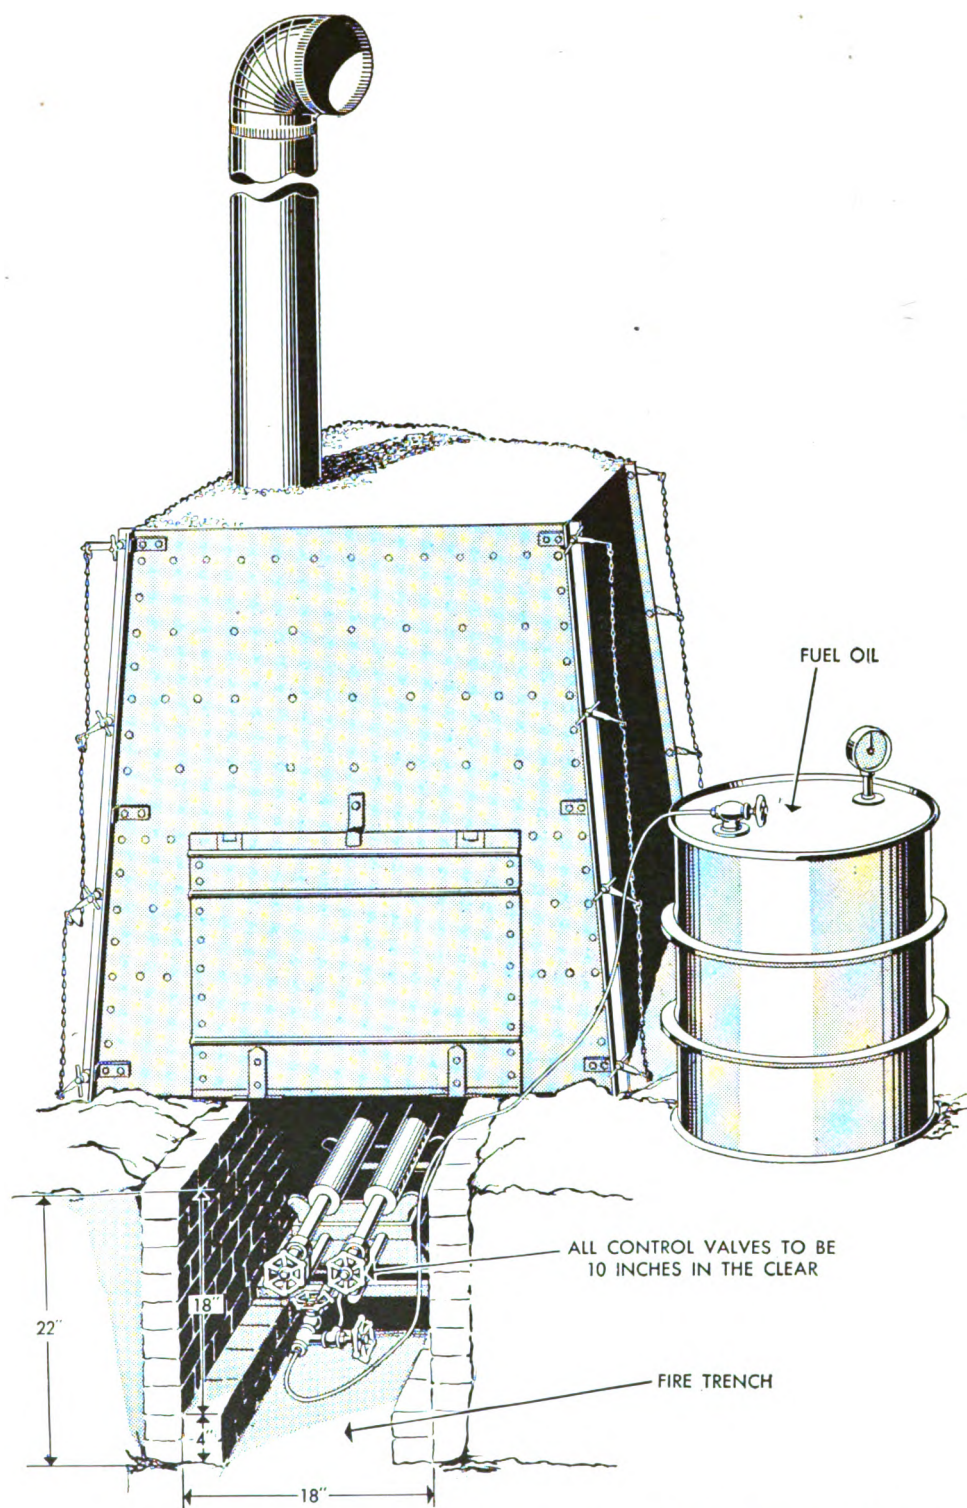

Figure 75. Wynne oil burner (65-A-1058) in use with oven, bake, Army field, No. 1.
b. Assemble the burner in the following manner (see fig. 75):
(1) Adjust each retort valve so that the orifice is centered on the opening of the flame pipe, at a distance of  $\frac{3}{8}$  to  $\frac{1}{2}$  inch.
(2) Clean the openings of the retort pipes with the wire tool or reamer.
(3) Put the flame pipes into position so that one row of holes in each pipe is directed on the retort base and the second row of holes is directed outward toward the walls of the trench.
(4) Level the burner in the center of the trench, with the operating valves extending 10 inches back of the oven. (See fig. 75).
(5) Set a 14- to 16-gauge drum of kerosene on the ground beside the firing pit. Connect the feed line from the drum to the burner. Be careful to wipe all gaskets clean before placing them on the drum connections and to use only the proper wrenches for tightening the nuts. Do not use pliers or Stillson wrenches.